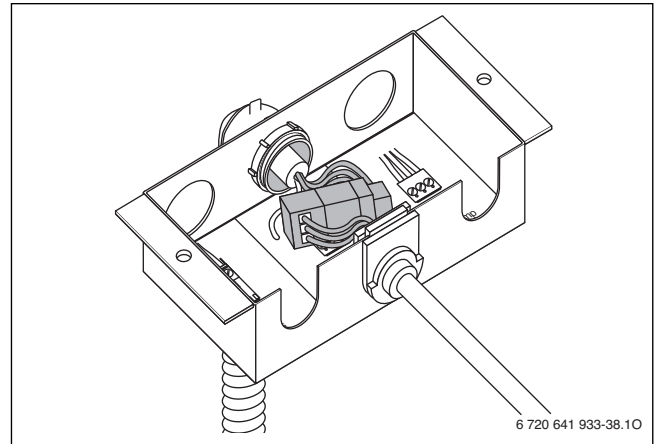

Fig. 55 Cable connected (external DHW tank loading pump or 3-way valve)
- ▶ Insert cable into the junction box as shown in Fig. 55.